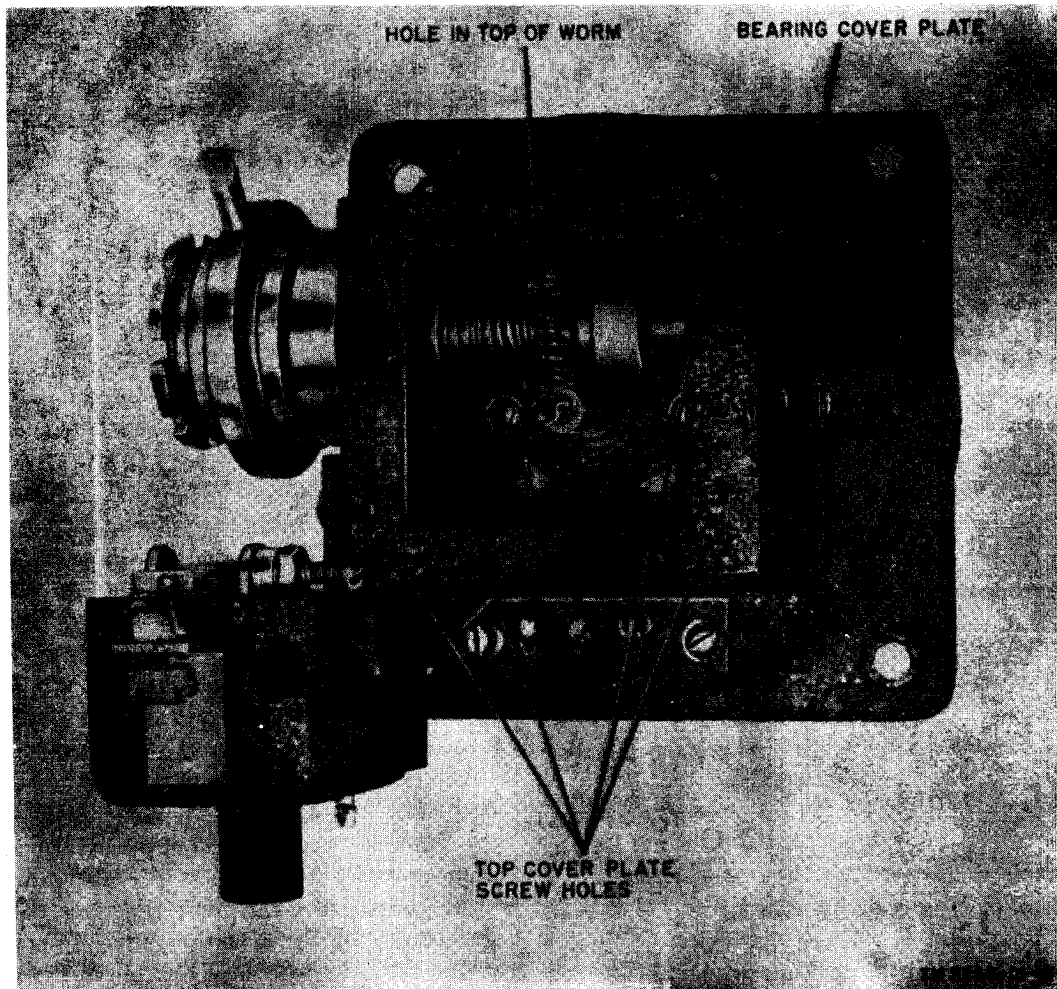

Figure 110. Top plate removed from motor.
(figs. 110 through 113)
Normally, the gear should be replaced when the worm is replaced. Although the gear may not display excessive wear, it becomes, in time, charged with abrasive particles which may cause undue wear on a new worm. Refer to figures 110 through 113 before starting replacement. The motor may be left mounted on the facsimile set during replacement.
b. Insert the No. 6 Allen setscrew wrench in the taper screw of the worm, and grip the slot with the spanner wrench (figs. 110 and 113).